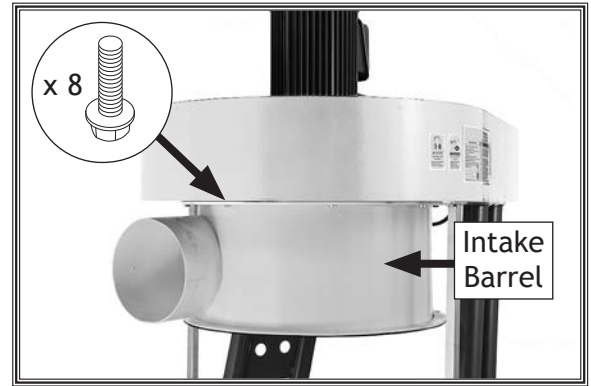

Figure 14. Intake barrel attached to impeller housing.
9. Have an assistant align intake barrel so dust port points straight out from impeller housing (see **Figure 14**), then attach to impeller housing with (8) $\frac{5}{16}$ "-18 x $\frac{1}{2}$ " flange bolts.